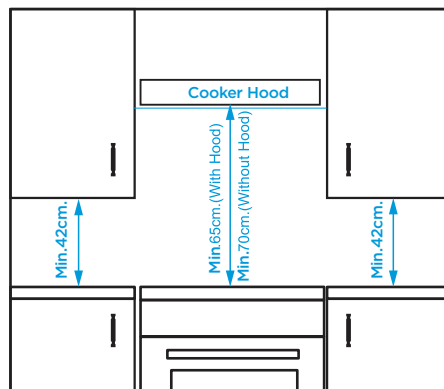

Figure 1
4. Place the wall cabinets adjacent to the hood at a minimum height of 42cm from the hobs as indicated in figure 1.
6. Should the cooker be installed beneath a wall cabinet, the latter should be situated at least 70cm away from the hobs as indicated in figure 1.
7. The cut-out for the cooker cabinet should have the dimensions indicated in the figure 1.